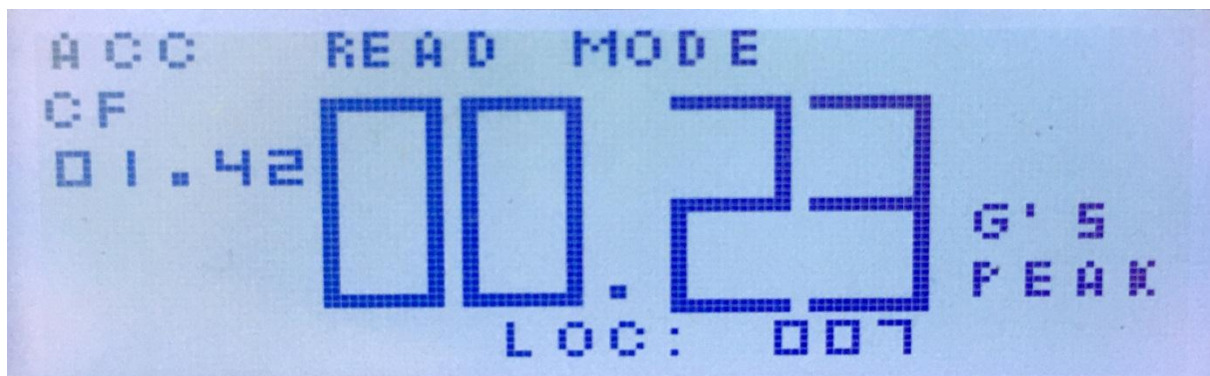

fig. 3.3
3.6.1 Depress the RECORD/READ button until the display indicates READ MODE as shown in fig. 3.3.